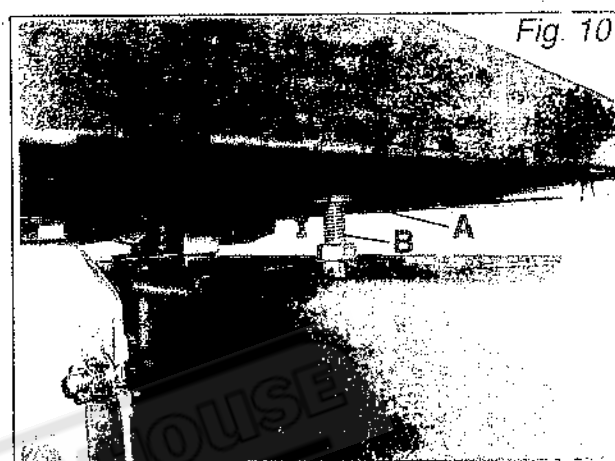

Fig. 10
The table stop screw rests on the top of the lower wheel bandwheel housing. By, first slackening the locking nut (A) and then adjusting the screw (B) the table can be set correctly. Re-tighten the locking nut (A) making sure that the setting is maintained. *Fig. 10*